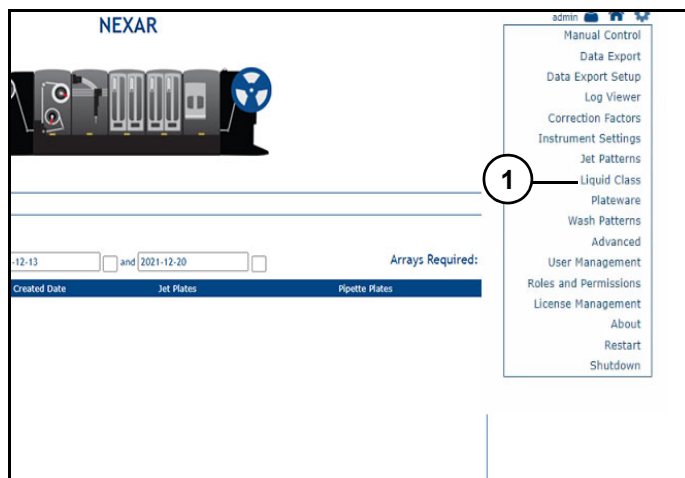

Figure 23
Liquid Class (1) (Figure 23): Opens liquid class page.